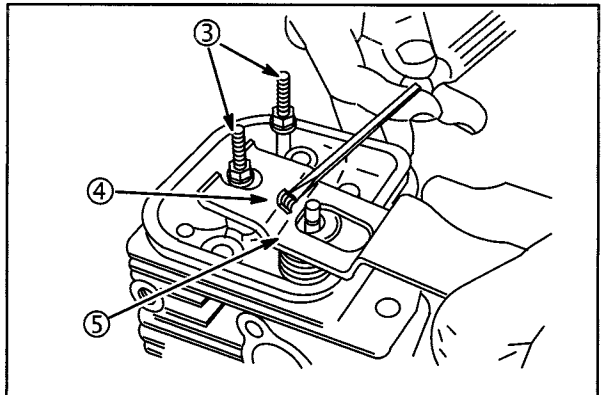

**Fig. 18**
2. Install valves, **Fig. 18**.